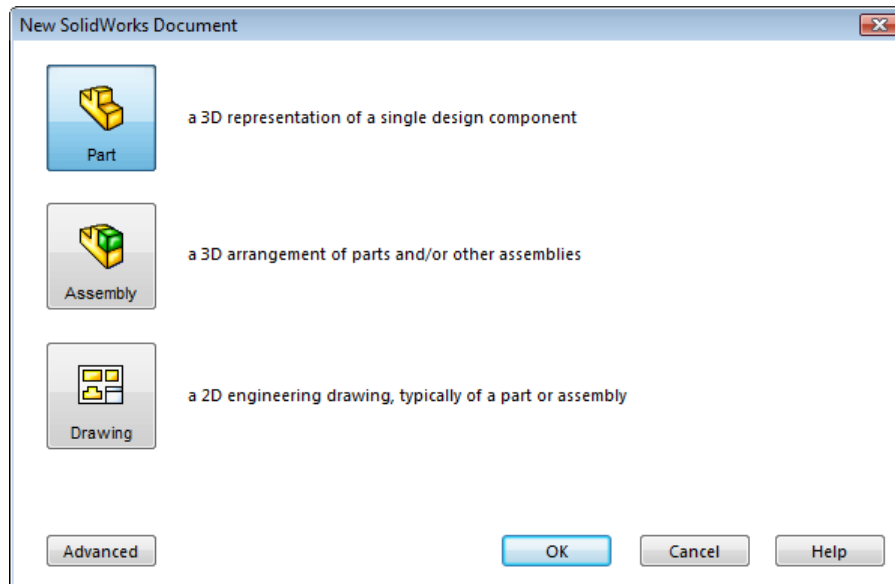

Figure 2-57 The New SolidWorks Document dialog box
- Choose the **New Document** option from the **Getting Started** rollout of the **SolidWorks Resources** task pane; the **New SolidWorks Document** dialog box is displayed, as shown in Figure 2-57.